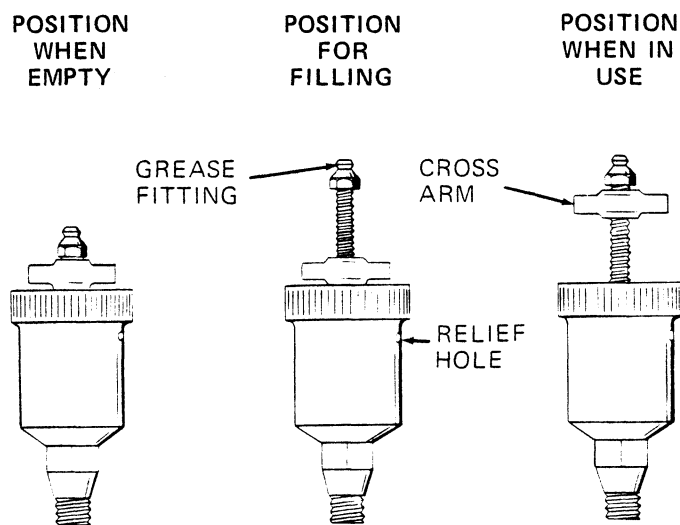

Figure 3. Automatic Lubricating Grease Cup
Before removing the seal assembly, turn the cross arm on the seal grease cup (14) clockwise until it rests against the cover (see figure 3). This will prevent the grease in the cup from escaping after the seal is removed.
Before starting the pump, fill the grease cup through the grease fitting with a good grade of No. 2 pressure gun grease until grease escapes from the relief hole. Turn the grease cup arm counterclockwise until it is at the top of the stem; this will release the spring to apply grease to the seal (see figure 3).